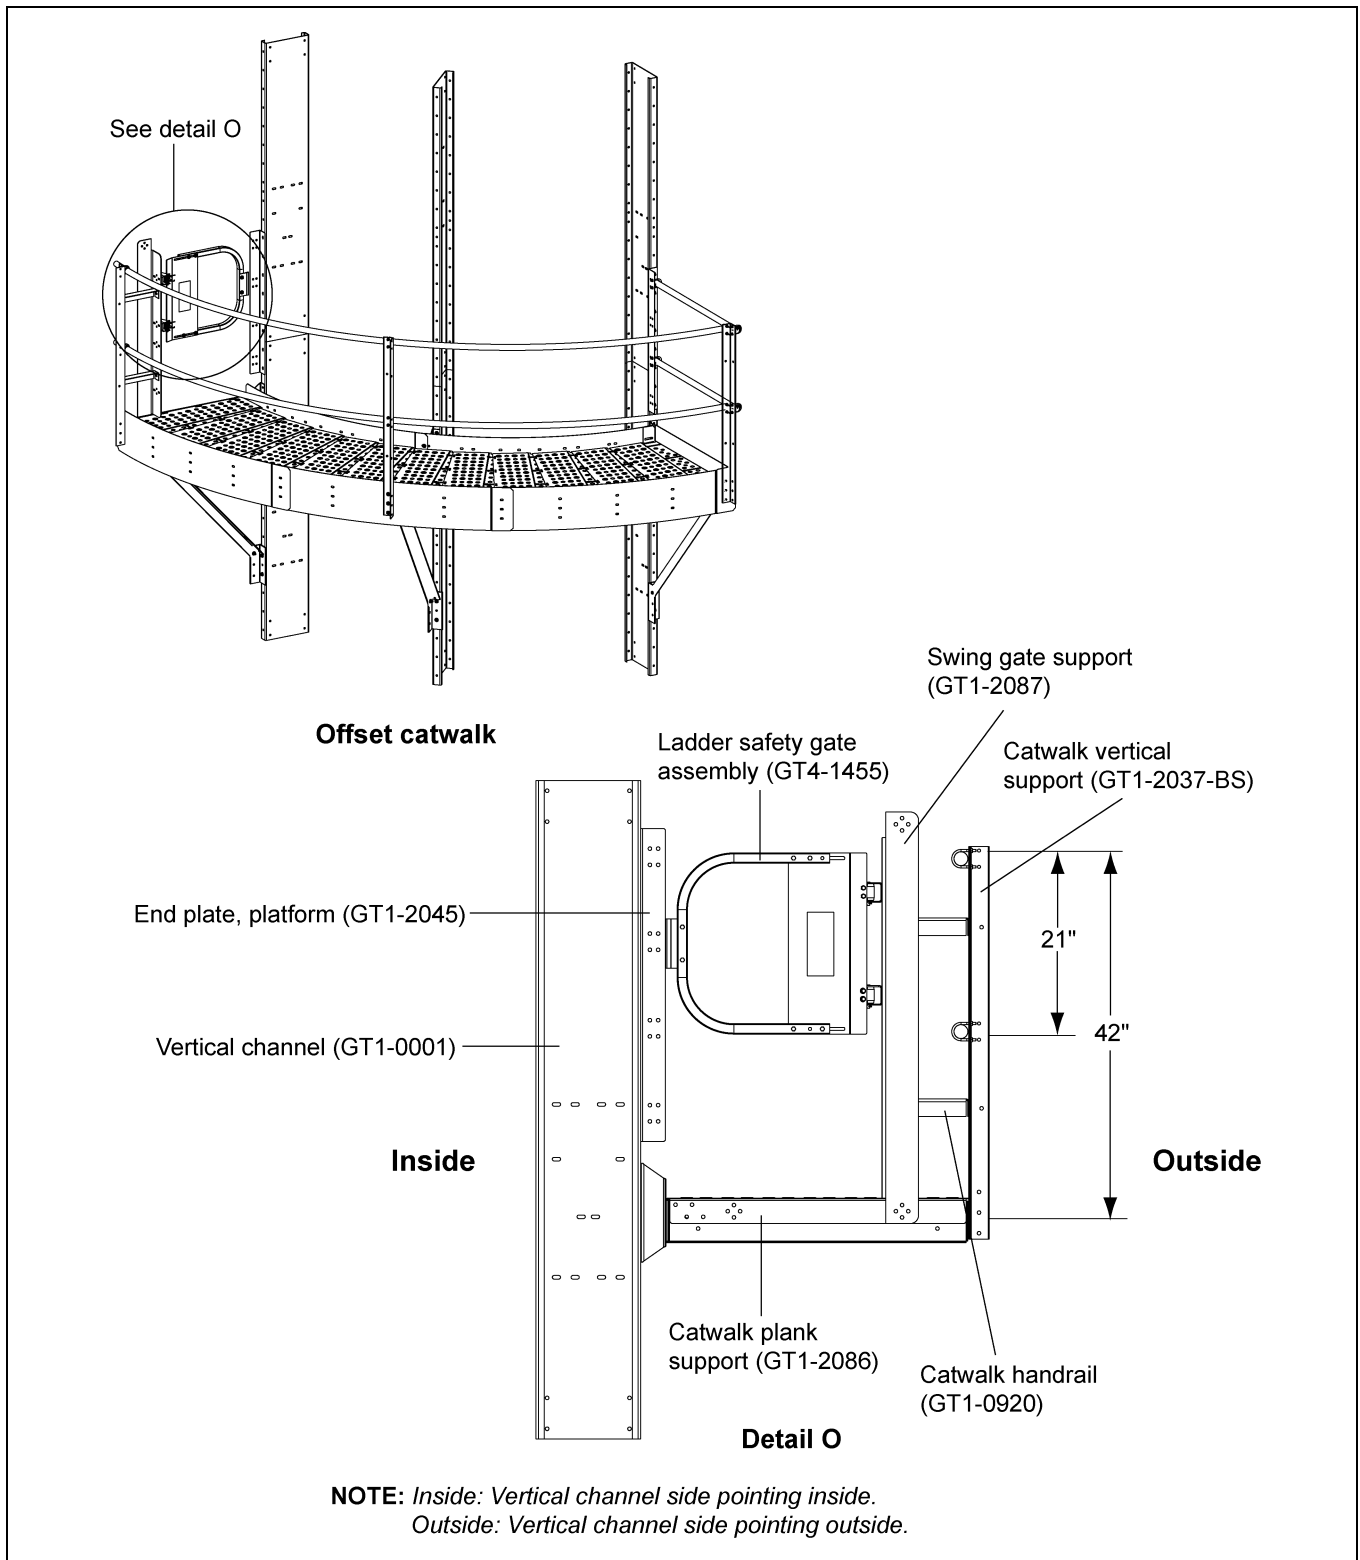

Figure 6Y Offset Ladder Safety Gate Assembly to Swing Gate Support (GT1-2087)
3. Install the ladder safety gate assembly (GT4-1455) to the swing gate support (GT1-2087) using 3/8"-16 x 1" YDP grade 8 or grade 8.2 bolts (S-7927) and 3/8"-16 ZN grade 5 nuts (S-968). The distance between the plank and handrail is 42". (See Figure 6Y below and Figure 6Z on Page 58.)